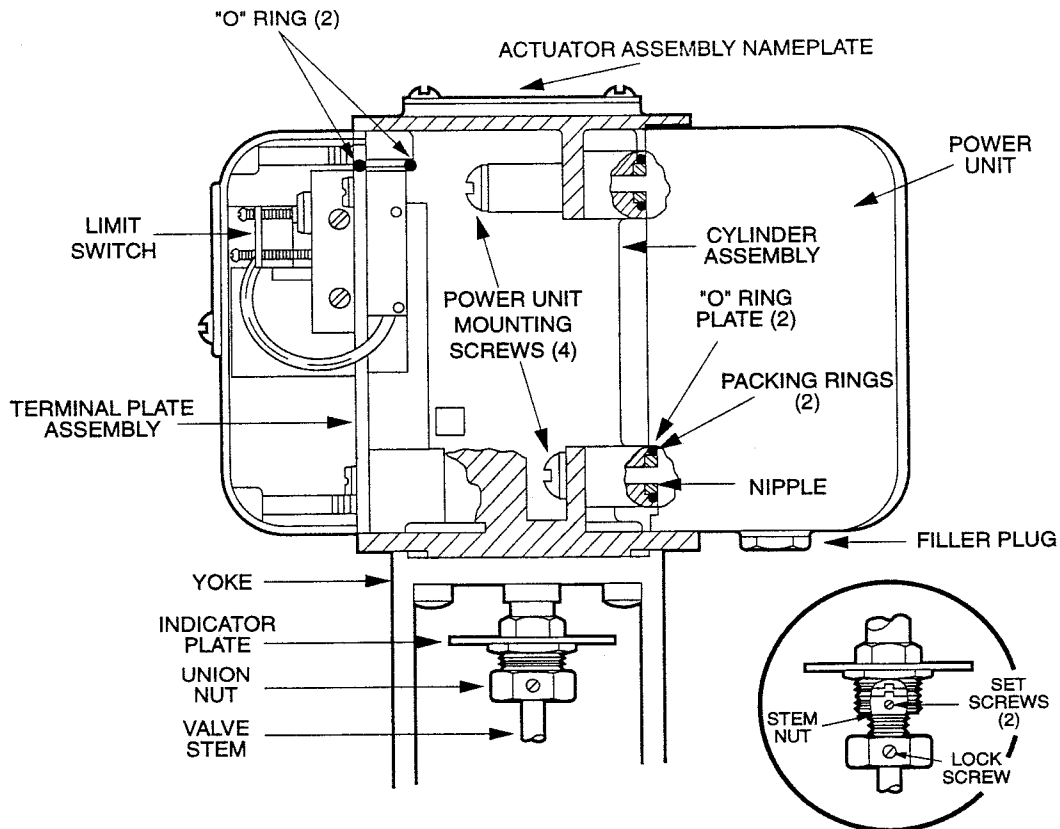

Figure 5. H11 Cross Section
1. Loosen lock screw, unscrew union nut to detach valve stem from actuator shaft (Figure 5).
1. Filler plug is on bottom of unit. Actuator must be removed from valve body before filling with oil. (See Actuator Replacement). Unscrew filler plug (Figure 5).